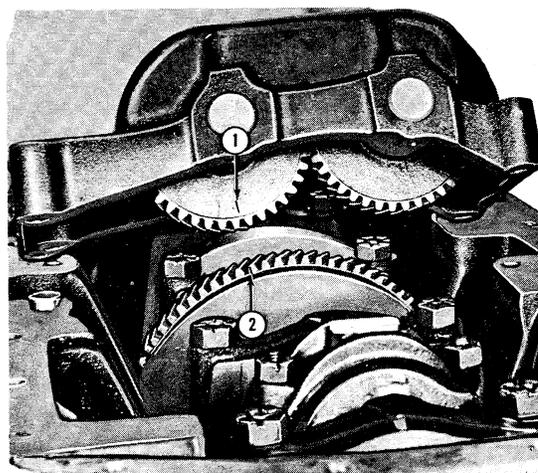

Figure 51
17. **BALANCER:** Wipe all mating faces clean and rotate the crankshaft so the timing mark is at the bottom. (Nos. 2 & 3 pistons will be at T.D.C.) Align the mark on the balancer drive gear with the crankshaft mark, Figure 51, and install a new gasket in the lubrication hole.